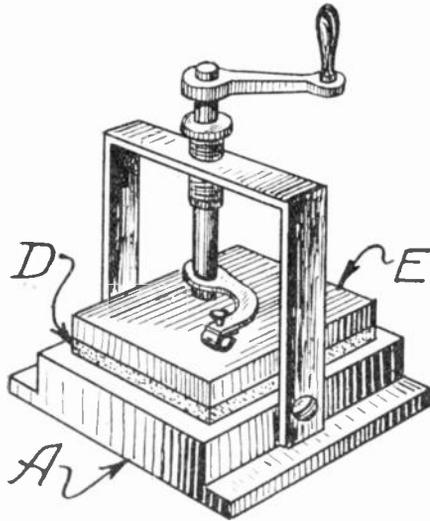

Fig. 2
An electrochemical receiver was patented by House in 1887. This receiver was based on the molecular vibrations set up in an electrolytic material during the passage of the undulatory current. The illustration, Figure 2, shows this receiver in detail. On a base support (A) rests a carbon plate (D). Upon this carbon block is placed a block (E) composed of an electrolytic substance or saturated or impregnated with the same. Contact between the carbon plate and the electrolytic block throughout their contiguous surfaces is made as intimate as possible and is preferably secured either by carefully smoothing the surfaces and joining them by screws or otherwise, or by moulding and compressing the material composing the electrolytic body upon the plate.